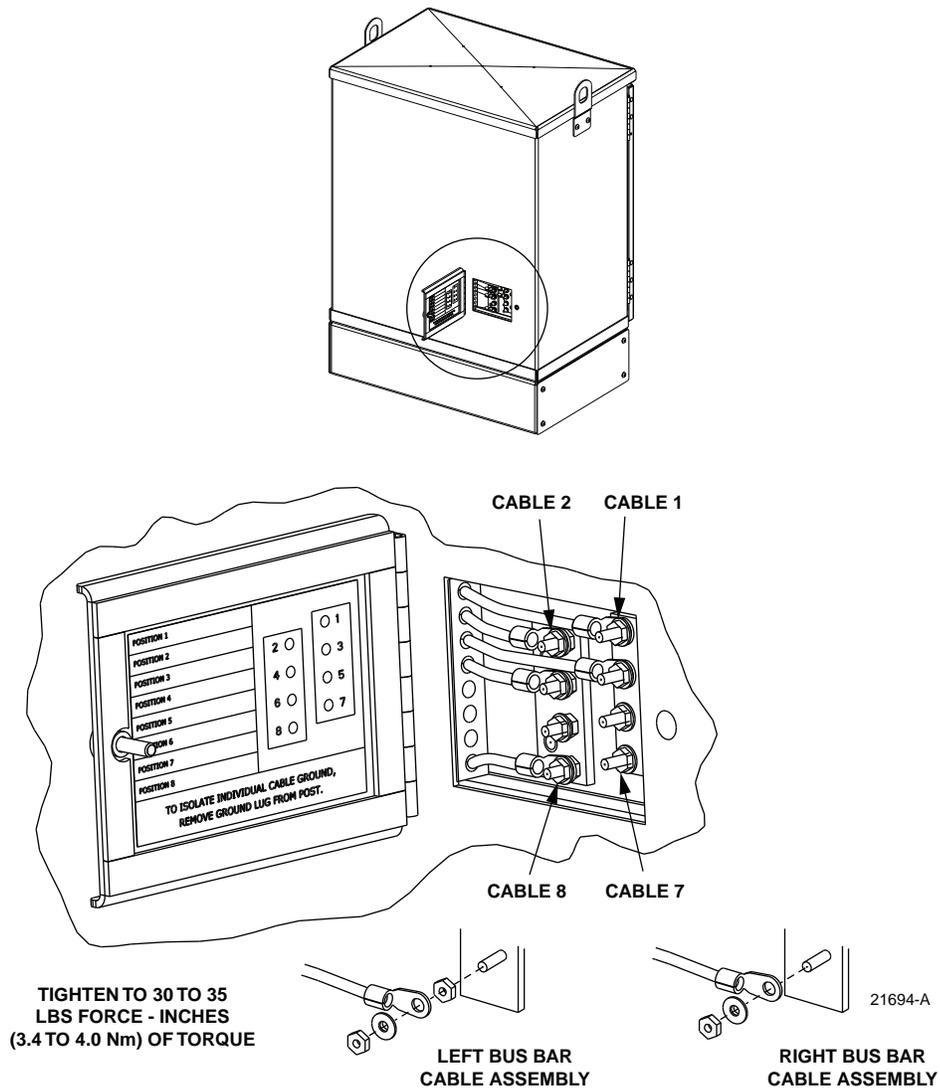

Figure 39. Grounding Block Access Cover
1. Locate the small hinged access cover at the rear side of the cabinet as shown in Figure 39.